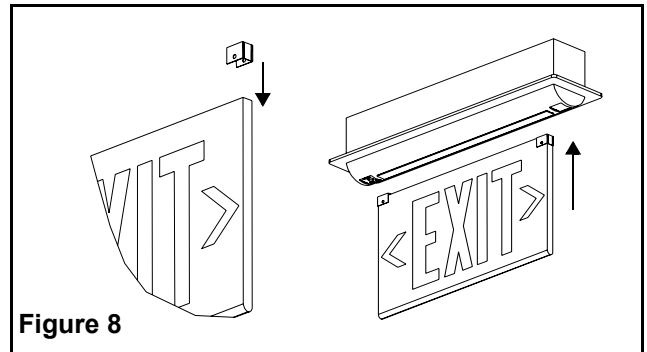

Figure 8
7. Partially remove the protective sleeve from the exit panel. Corner clips may require assembly on panel. Install the clips (see fig. 8).
8. Push the exit panel, with clips installed, into the slot in the trim plate assembly until it snaps (see fig. 8). Gently try to pull out the panel to ensure that it is engaged in the trim plate assembly. Remove the protective sleeve.